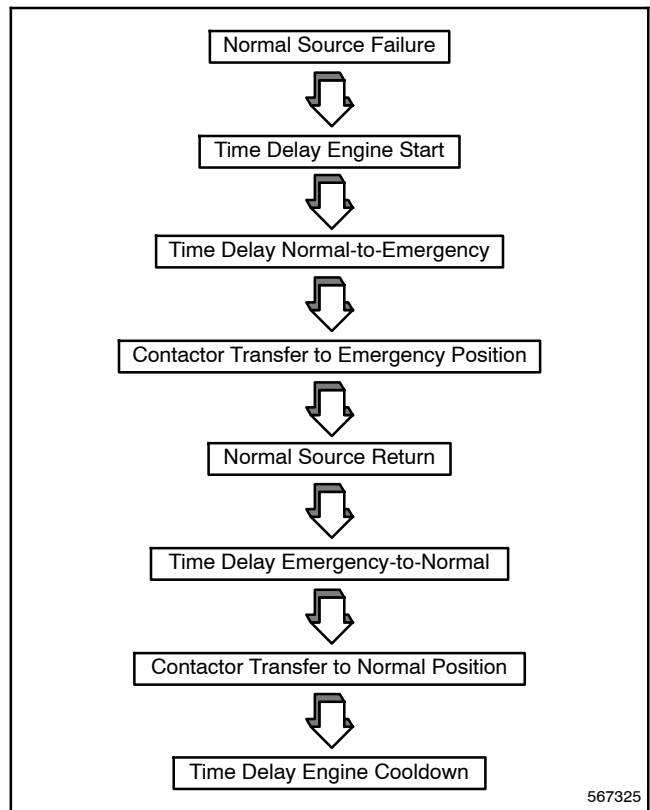

Figure 3-2 Logic Board Operation
Operation of the typical automatic transfer switch is divided into two separate sequences: (1) failure of normal power and the resulting transfer to emergency power and (2) restoration of normal power and the resulting transfer back to normal power. A brief description of both sequences is provided below and illustrated in Figure 3-2.